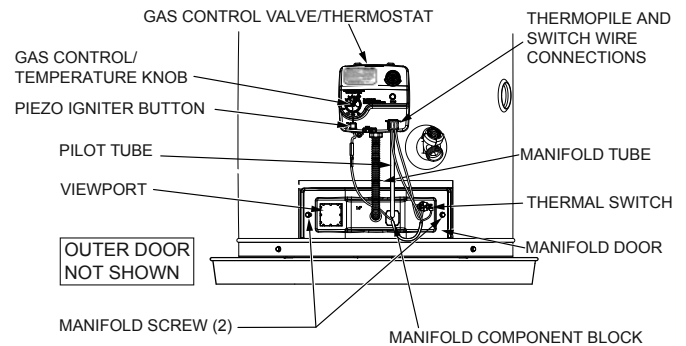

FIGURE 29.
8. Remove the screws (1/4" nut driver) securing the manifold/burner assembly to the combustion chamber. See Figure 29.
2. Inspect the viewport for damage and replace as required (Figure 29).